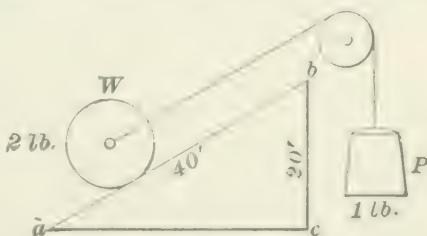
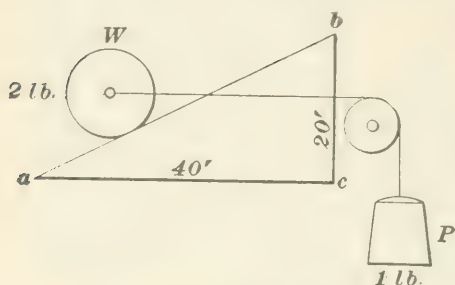

FIG. 34
FIG. 35.
in Fig. 34. (2) Where the force acts parallel to the base, as in Fig. 35. (3) Where the force acts at an angle to the plane or to the base,
82. Relation Between Force and Weight.—In Fig. 34, the relation existing between the force and the weight is easily found. The weight ascends a distance equal
83. In Fig. 35, the force is supposed to act parallel to the base for any position of W ; therefore, while W is moving from the level ac to b , or through the height cb of the inclined plane, P will move through a distance equal to the length of the base ac . When the force acts parallel to the base, we have